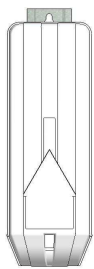

Fig. 1
- Installazioni esposte agli agenti atmosferici: solo le posizioni nelle Figure 1, 2, 3.
- Installation in places exposed to atmospheric agents: Only the positions in Figs. 1, 2, 3. Other positions are not allowed - they could cause damage and will invalidate the transformer warranty.
- Installation exposée aux agents atmosphériques: seulement les positions des figures 1, 2, 3. D'Autres positions, ne sont pas garanties, et peuvent causer des dommages annulant la garantie.